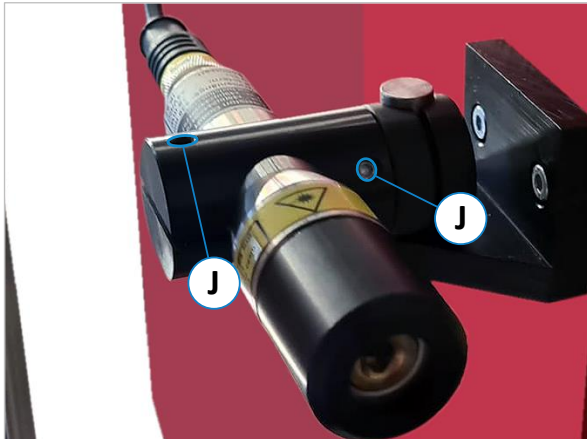

Figure 36: Laser device
- ➔ Use the two adjustment screws (J) shown in ⇨ Figure 36 for readjustment.